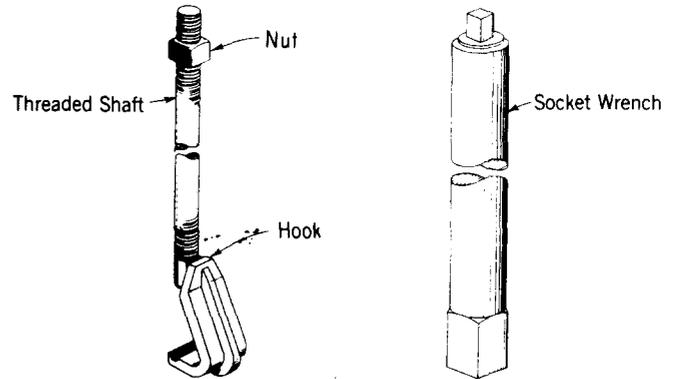

Fig. 15—E Strand Shifter
7.04 The *E strand shifter* (Fig. 15) consists of two hook assemblies, a socket wrench, and a ratchet wrench.